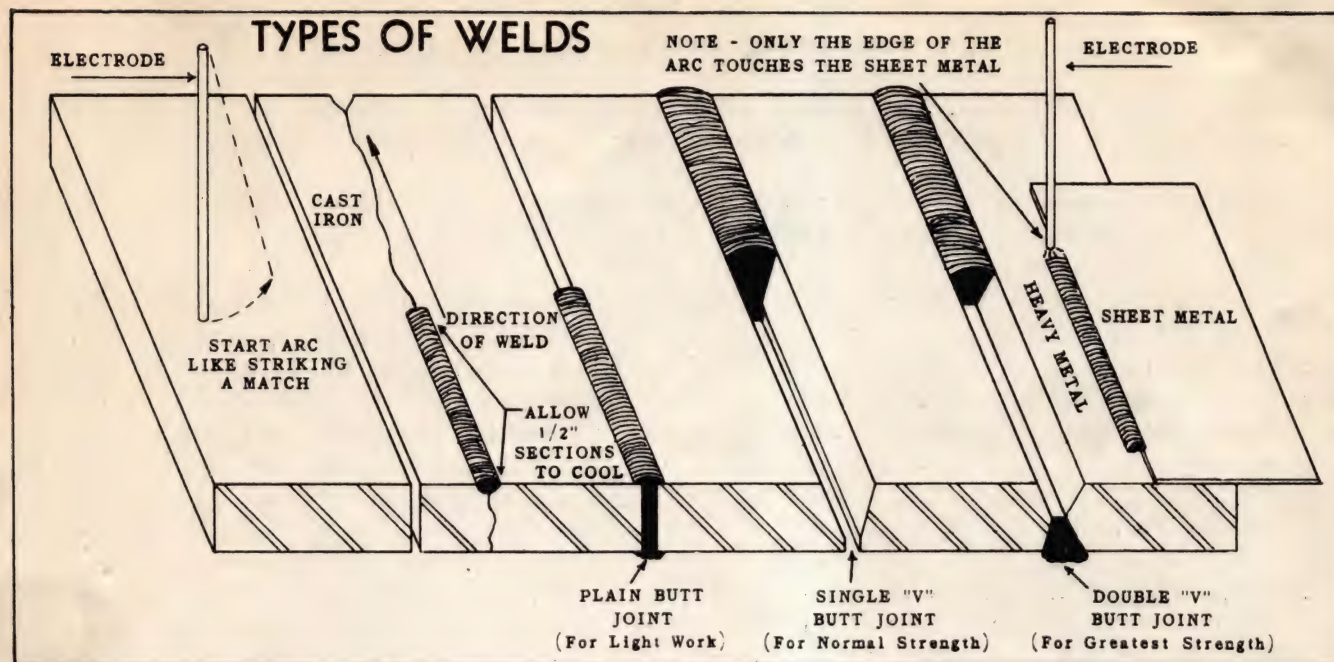

Fig. No. 20
Study the several types of welds shown in Fig. No. 20, (top next page). Thick materials are easier to weld than sheet metal, and because of this, it is suggested that practice at first be on heavy stock, and at medium or high heat ranges. Before beginning to weld, the metals should be free from oil, rust, scale, etc. Scale and rust can be removed with a scratch brush.
**THE FIRST STEP** is in learning to strike and maintain the arc, which is done in a manner similar to striking a match. Note from Fig. No. 20 (next page) that the tip of the rod is brought into contact with the metal by a short sweeping motion, which, as soon as the arc is struck, carries the rod away from the metal about 1/8 of an inch. Before any attempt to weld is made, the operator should practice striking and holding the arc until it becomes largely an automatic procedure.
NOTE: - In the case of fairly thin pieces of the above material, they may be butted tight to each other before welding, but when heavy material is encountered, the edges should be beveled, or placed not closer than 1/8 of an inch apart. See Fig. No. 20 - page 14.
When any of the above welds are to be made, or similar cases arise, a 3/32" rod is used with a heat somewhat stronger than would be used on sheet metal only. In fact, the heat can be considerably greater if the tip of the welding rod is held directly over the heavy material, and the weld laid along the edge of the sheet metal. This eliminates burning the sheet metal, and a strong, neat weld will result. (See Fig. No. 20 - page 14). Also, contrary to acetylene methods, there will be no warpage of the sheet metal, as there is no pre-heating, and the heat line is small.
Because of the characteristic of cast iron to crack after welding, due to expansion under heat that has been built up, and the consequent contraction when cooling off, it is necessary to weld not more than 1/2 inch at a time. See Fig. No. 20 - page 14, which illustrates how to prevent excessive heat from being built up. The welding technique is the same as with steel, but in addition to being limited to 1/2 inch at a time, it is also advisable, if an exceptionally long crack is to be welded, to make a 1/4 inch tack weld, spaced about 2 to 3 inches apart. (See next page also).